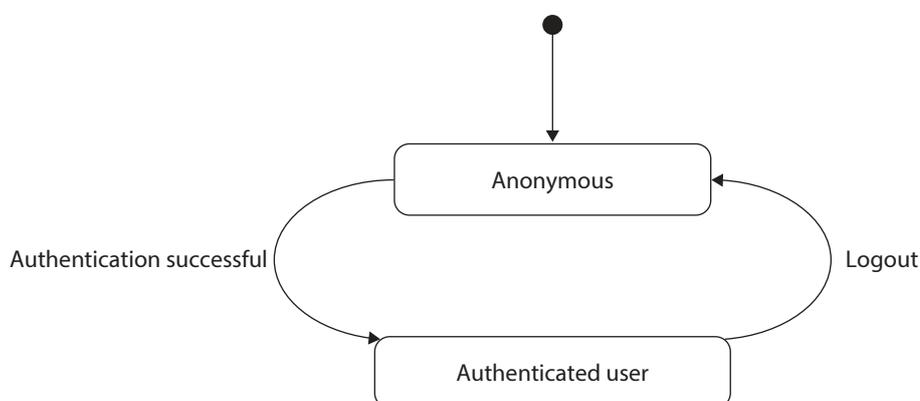

Figure 1: User Types
- When the authentication is completed successfully, the user transitions from **Anonymous** to **AuthenticatedUser** as shown in Figure 1. All users with the type **AuthenticatedUser** are allowed to modify their own password.